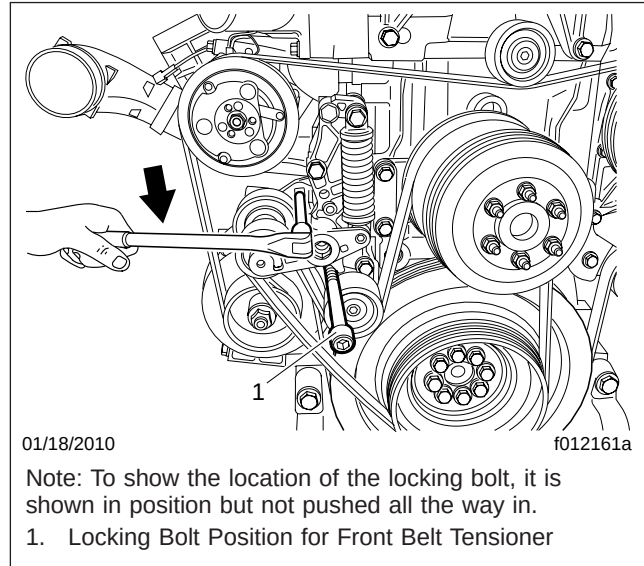

Fig. 4, Releasing the Rear Tensioner (smooth pulley)
6. Insert a 10 mm diameter x 80 mm long bolt into the round hole on the idler arm of the tensioner as shown in Fig. 4, then push it all the way in. After the bolt is pushed all the way in, the tensioner will be locked in the released position. Remove the socket wrench from the square hole.
- belt tensioner (smooth pulley), then smoothly rotate it downward (counterclockwise) until you feel resistance. See Fig. 4.